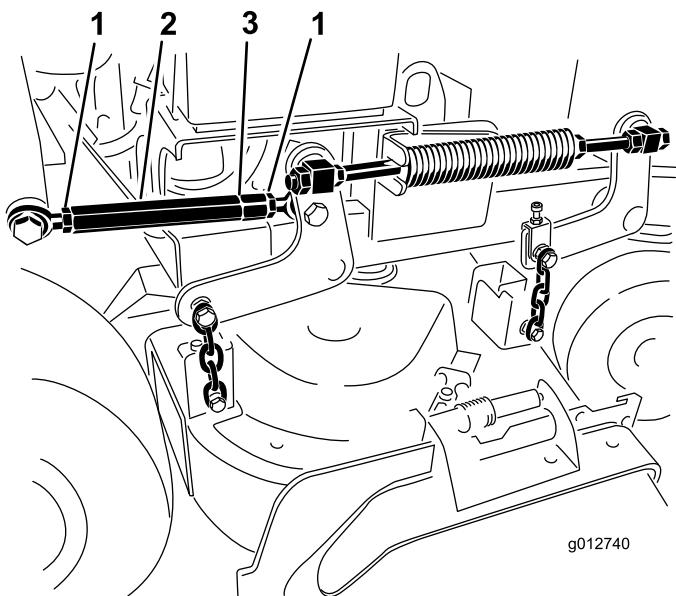

Figure 87
7. Loosen the jam nuts at both ends of the turnbuckle (Figure 87).
- Note:** The end of the turnbuckle with the groove machined in it has left hand threads (Figure 87).